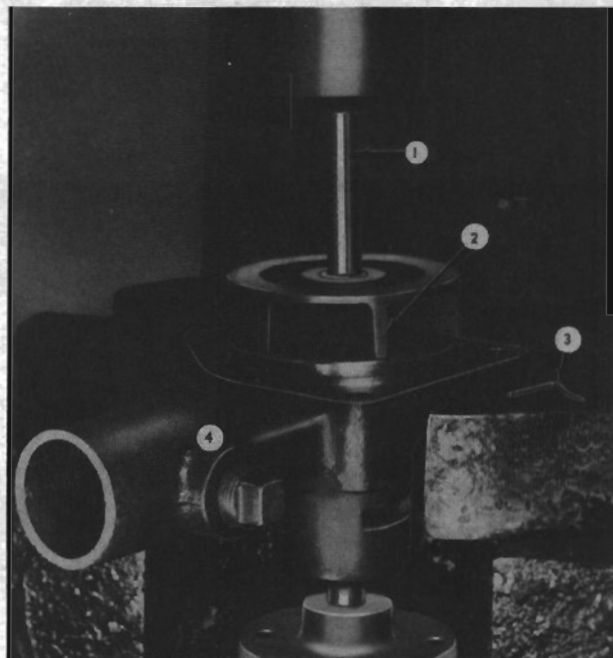

FIG. 3
The bearing lock ring (3, Fig. 3) must be removed before the pump (4) can be disassembled. Place the pump in an arbor press and remove the shaft, bearing, and hub assembly by pressing the arbor (1) through the impeller (2) and out through the front of the housing. Then press the shaft out of the hub.